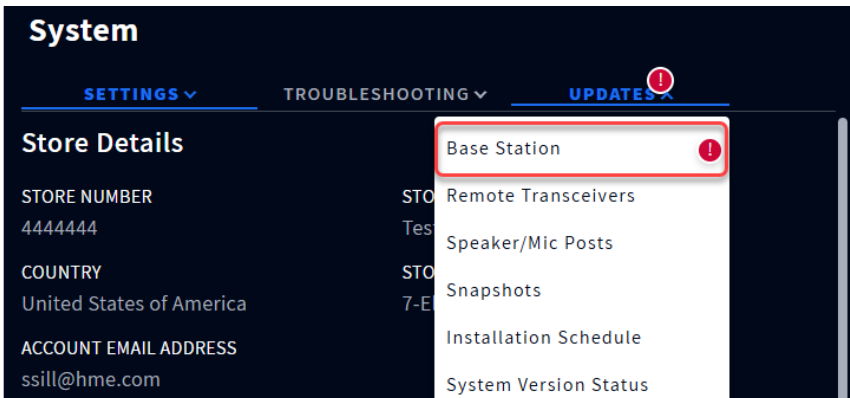

Fig. 15.11
- 3. Select Base Station from the drop-down list (Fig. 15.11).